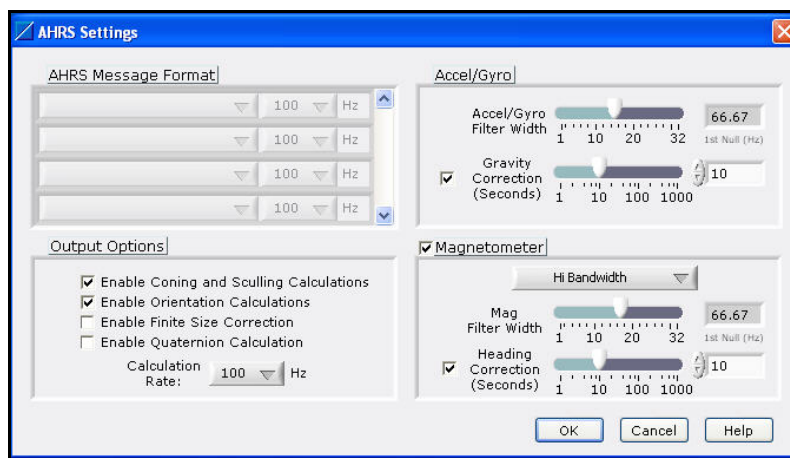

Figure 2 – AHRS Settings window
- Click AHRS and the AHRS Settings window will appear as shown in *Figure 2*.